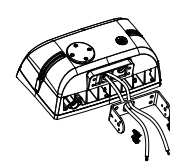

figure 5.1
- Step 1: Take the lamp out of package; (figure 5.1)